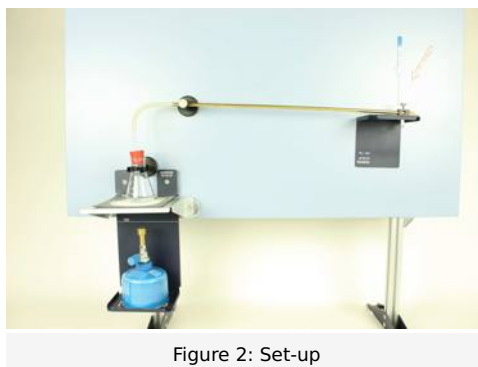

Figure 2: Set-up
1. Place the holder for the burner bottom left on the demo board, see figure 2.
7. The tubes have two indentations $l = 500$ mm apart from each other and one slanted end. As shown in figure 2, mount the collar for linear expansion on the indentation at the side with the slanted end and use the other indentation to mount the tube in a clamping holder (0 - 13 mm).